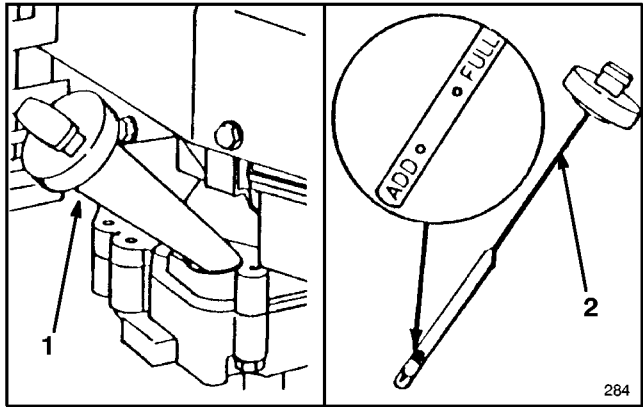

Figure 6
Fill crankcase with SAE 30 or 10W30 oil until oil level reaches FULL mark on dipstick as shown in (Fig. 6). The maximum crankcase capacity is 0.75 liters (25 ounces) of oil. Use any high quality detergent oil having the American Petroleum Institute (API) “service classification” — SF, SG or SH.
Before each use, ensure oil level is between ADD and FULL marks on dipstick (Fig. 6). Add oil if level is low.
3. Wipe dipstick and insert it into filler neck. Rotate cap clockwise 1/4 turn. Then remove dipstick and check level of oil (Fig. 6). If level is low, add only enough oil to raise level to FULL mark on dipstick. **DO NOT FILL ABOVE FULL MARK BECAUSE ENGINE COULD BE DAMAGED WHEN STARTED. POUR OIL SLOWLY.**
1. CHECK OIL LEVEL—Maintain oil level between ADD and FULL marks as shown on dipstick (Fig. 6).